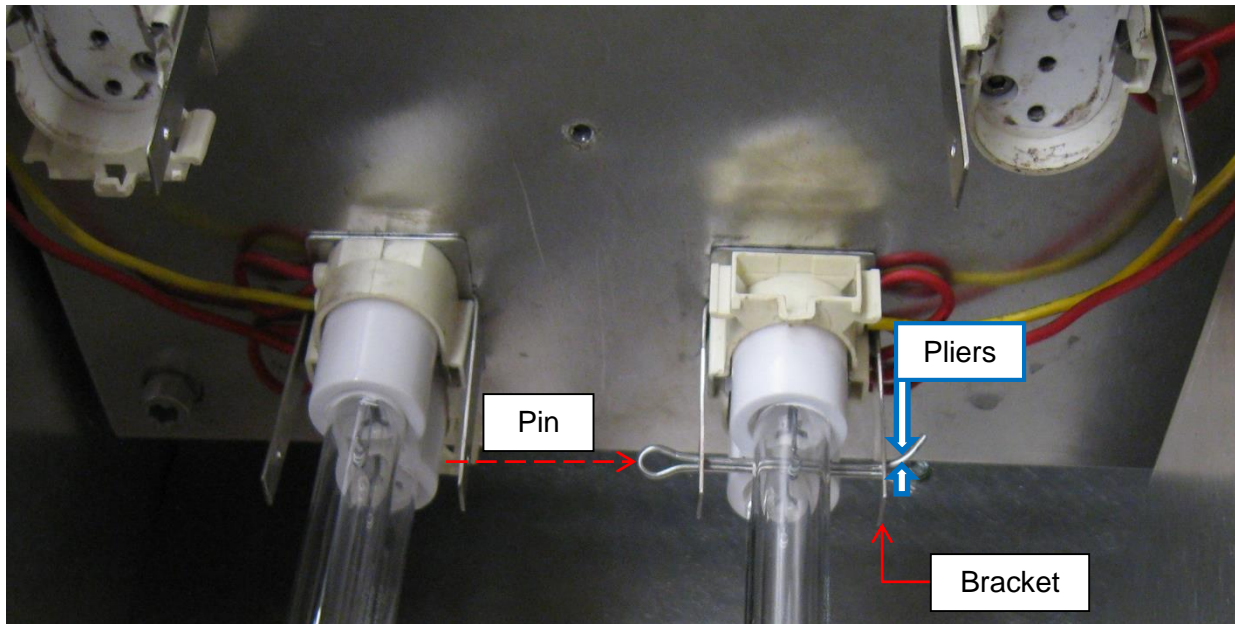

Figure 11: Cotter Pin Installation with Needle Nose Pliers.
- 12) Pass the cotter pins through the brackets and use the needlenose pliers to bend them outward as shown in Figure 11.